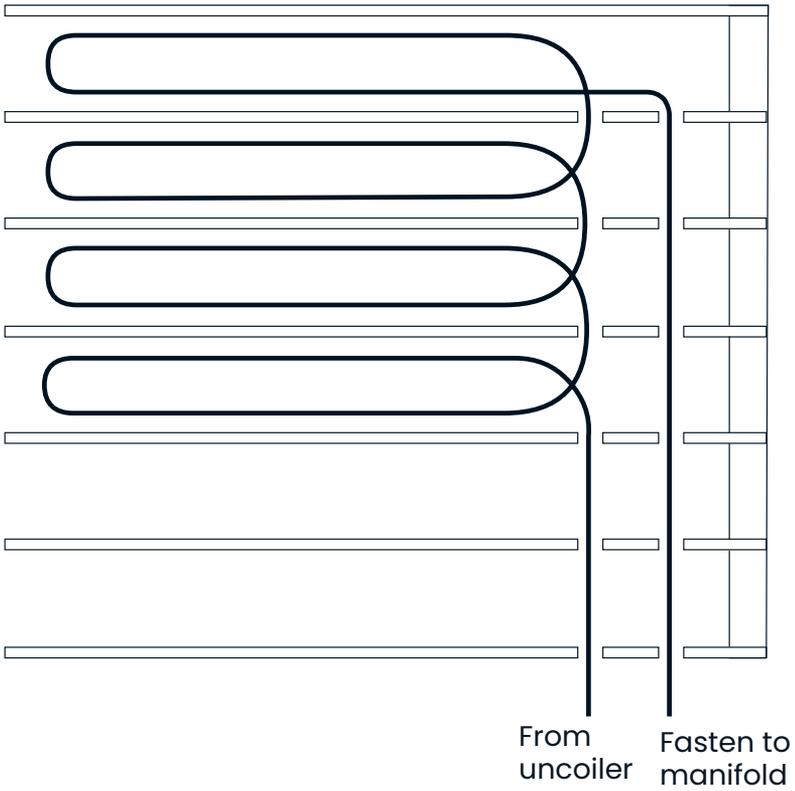

Figure 7-17: Top view of joist installation
4. Starting with the joist bay farthest from the manifold, grab the loop and twist 180°. Then pull the loop the length of the joist bay. Fasten the end of the loop in place or let it hang. Continue to work back toward the manifold (see **Figure 7-17**).